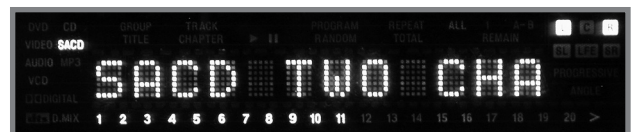

Figure 8
2. Some SACD Disc(s) have the ability of displaying the Album Title and Artist by pressing the MNU/TEXT Push-button **after** the SACD Table of Contents is read. Refer to figure 8.